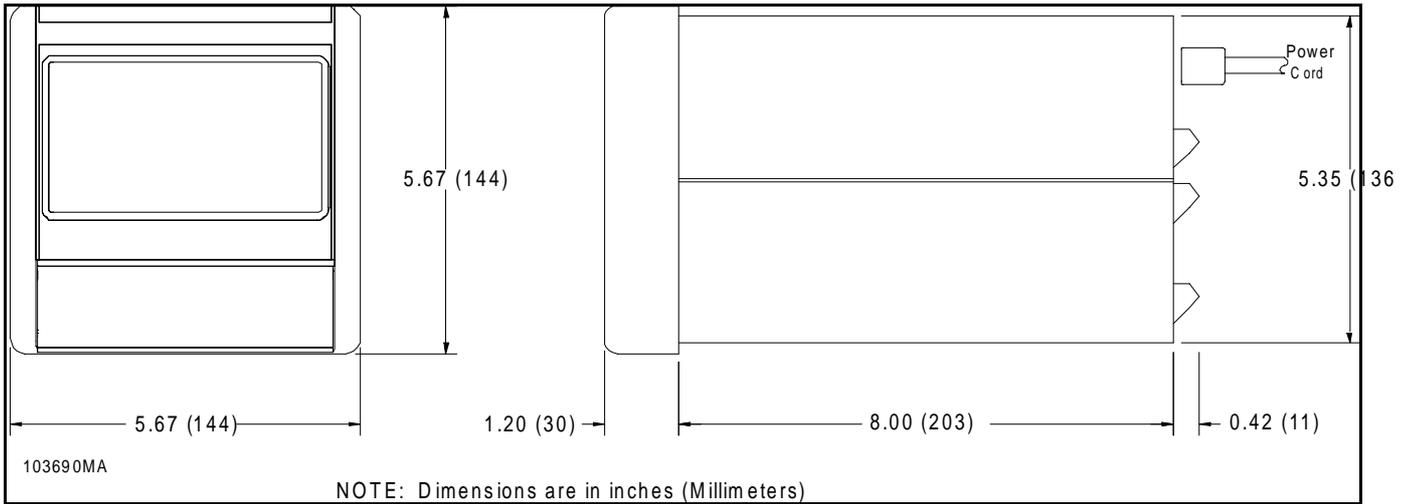

Figure 2-1 Recorder Dimensions
1.2.3 Instrument Size. The instrument is sized to fit in a DIN standard panel cutout of 138mm x 138mm (5.43 inches x 5.43 inches) and requires only 21.6 cm (8½ inches) behind panel depth. Actual dimensions of the instrument are shown in Figure 2-1 Recorder Dimensions, in Chapter 2 of this manual.
2.2.3 Panel Mounting - The instrument is sized to fit in a DIN standard panel cutout of 138mm x 138mm (5.43 inches x 5.43 inches) and requires only 21.6 cm (8½ inches) behind panel depth. Actual dimensions of the instrument are shown in Figure 2-1. The recorder should be mounted in a vertical panel to ensure proper operation. Ensure that you have the proper clearances and proceed as follows: